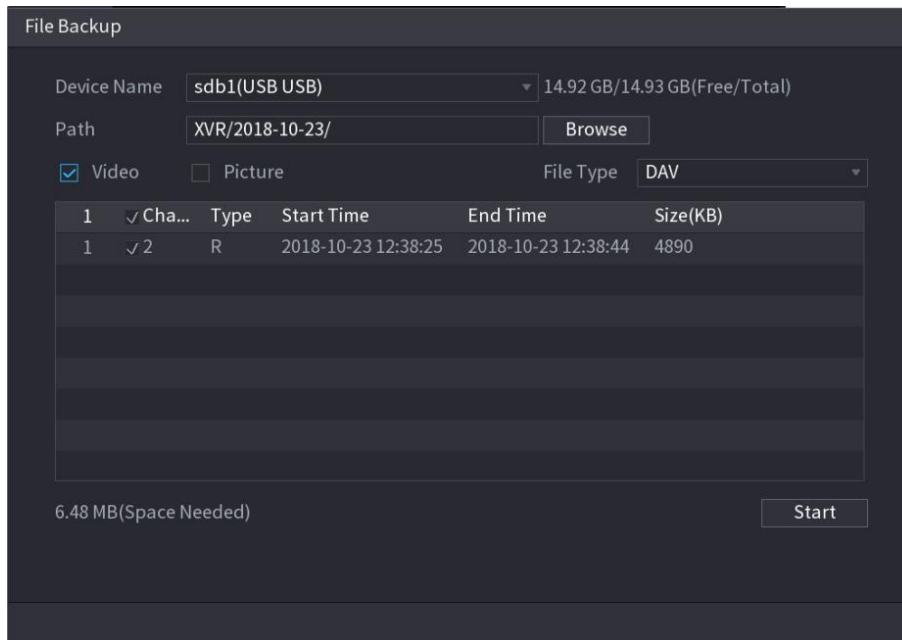

Figure 5-190
- To back up the recorded files to the external storage device, select files, click **Backup**, select the save path and file type, and then click **Start**. See Figure 5-190.